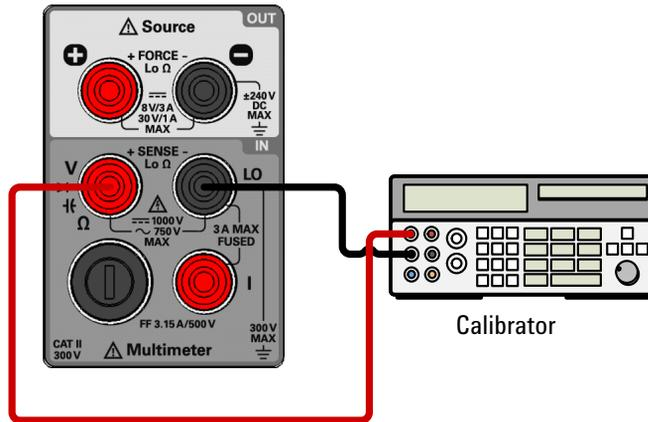

Figure 5-2 Test setup for DC voltage, AC voltage, resistance, and capacitance gain verification
- 1 Connect the calibrator to the front panel **V** (red) and **LO** (black) input terminals (see Figure 5-2 on page 146).